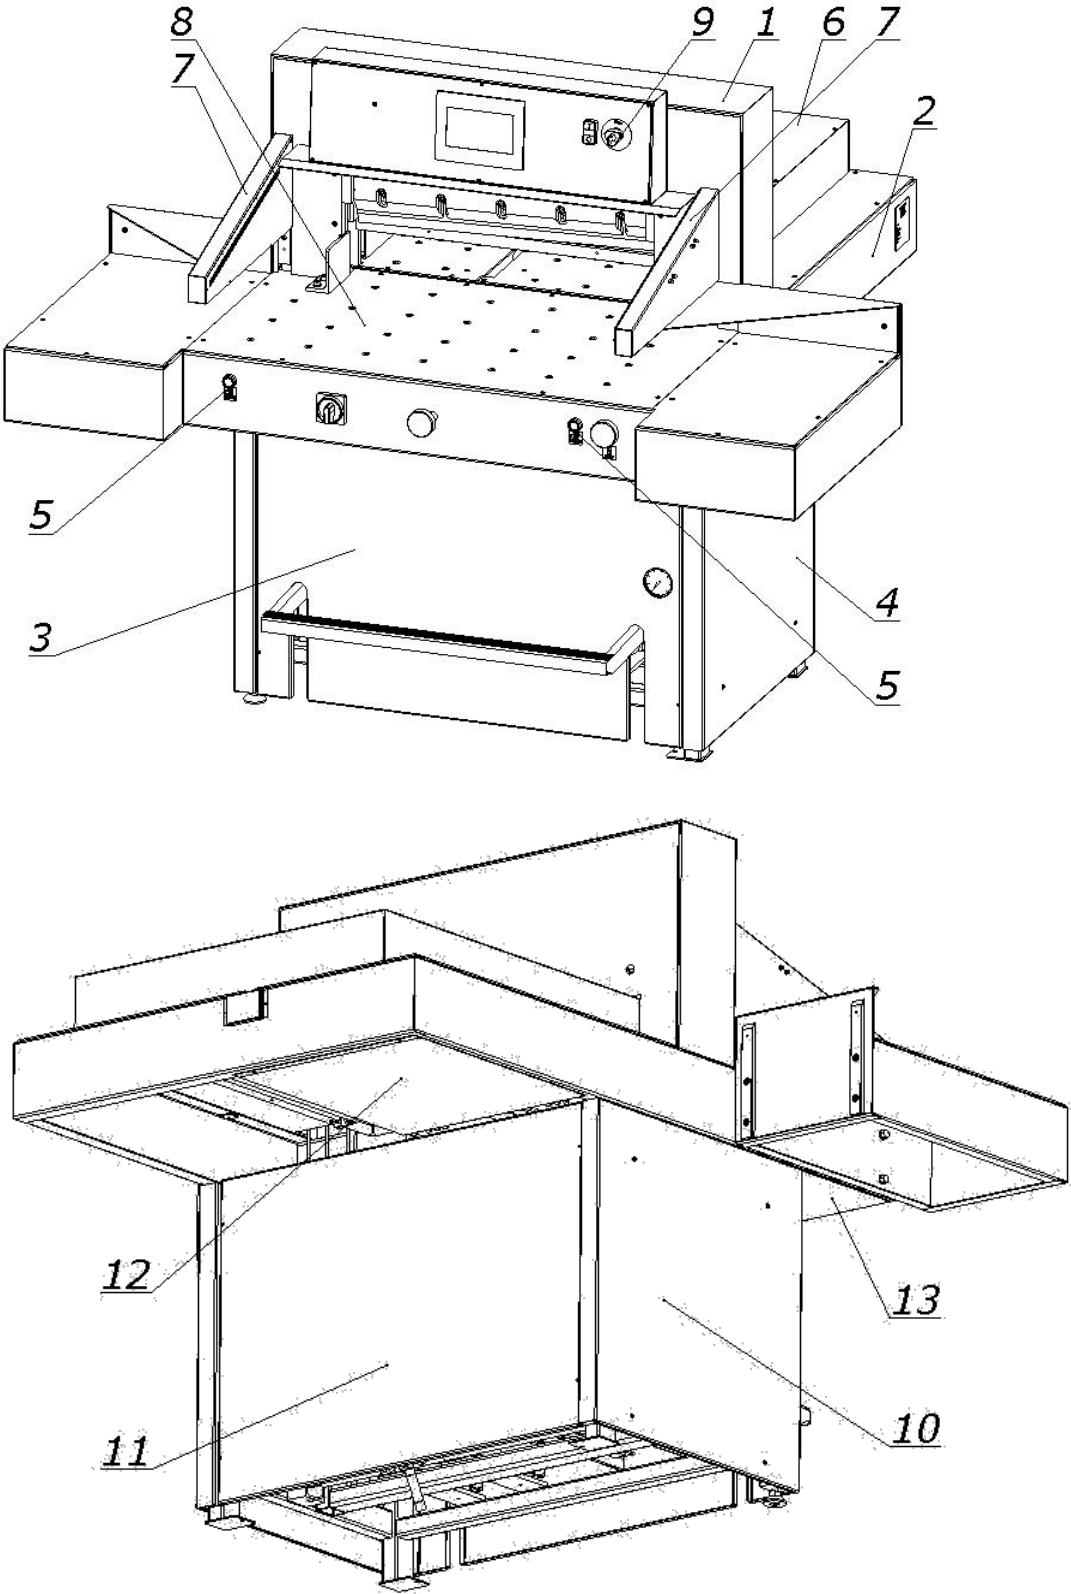

Figure 3 Arrangement of covers and protective elements
**Table 3: Safety measures used to eliminate hazards (according to Figure 3)**